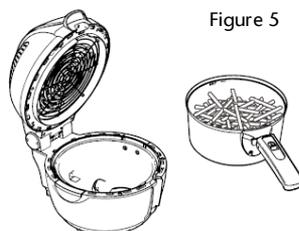

Figure 5
- Open the Top Cover (9) and allow it to click and lock into position and remain open on its own. Grasp the Basket Handle (5) and lift out of the fryer. Place it onto a flat, heat-resistant surface. (See Figure 5)